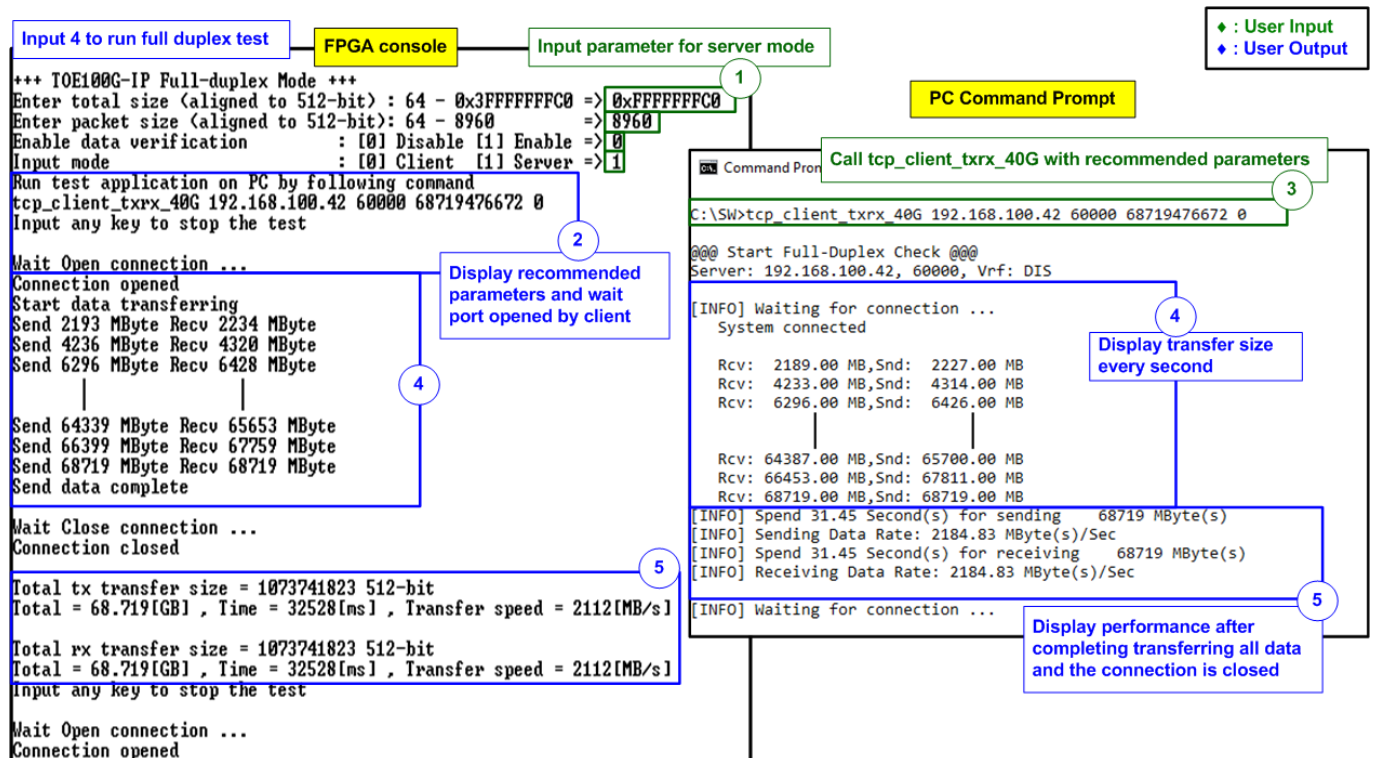
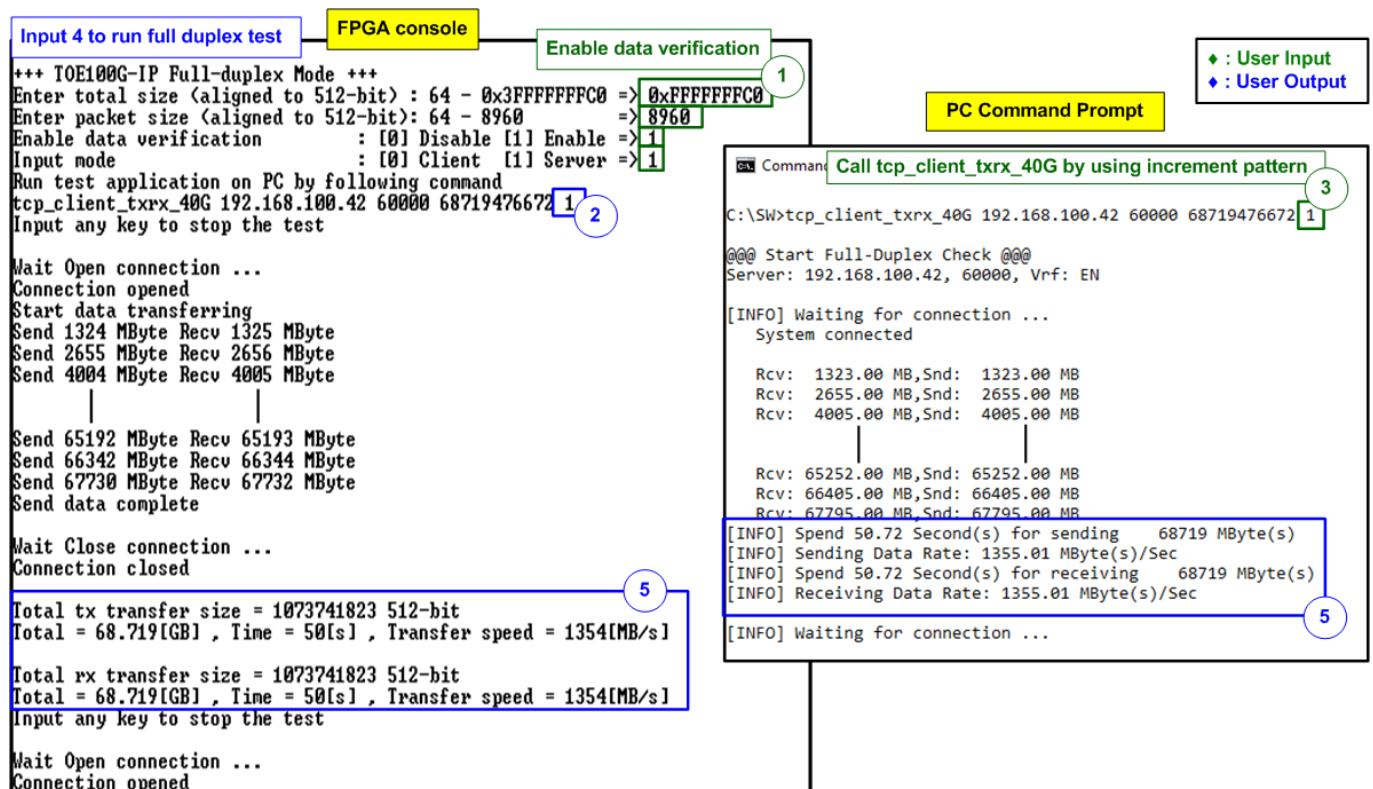

Figure 3-14 Full duplex test without data verification
Figure 3-15 Full duplex test with data verification
As shown in Figure 3-14 - Figure 3-15, transfer performance when running full duplex without data verification shows better performance than the test with data verification. Running without data verification takes less PC resource. The left window is the test result on FPGA console while the right window is the test result on Command prompt.
*Note: There is an issue when running tcp\_client\_txrx\_40G application on some Windows10 versions. The performance is much reduced. The results displayed in Figure 3-14 and Figure 3-15 use Windows10 Pro version1909. While using Windows10 Pro version2004 or 20H2, the performance is less than 200 MB/s.*